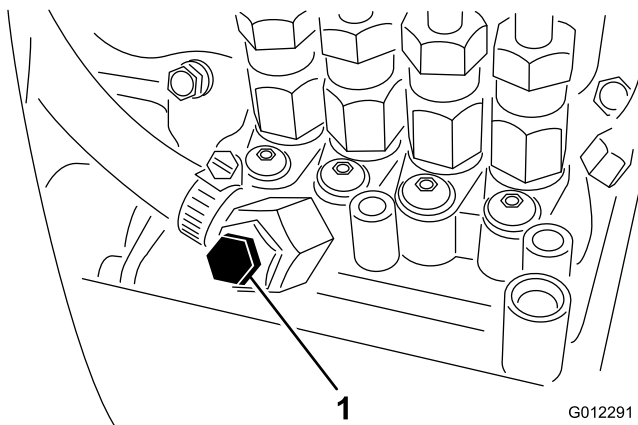

Figure 17
5. Open the air bleed screw on the fuel injection pump (Figure 17).